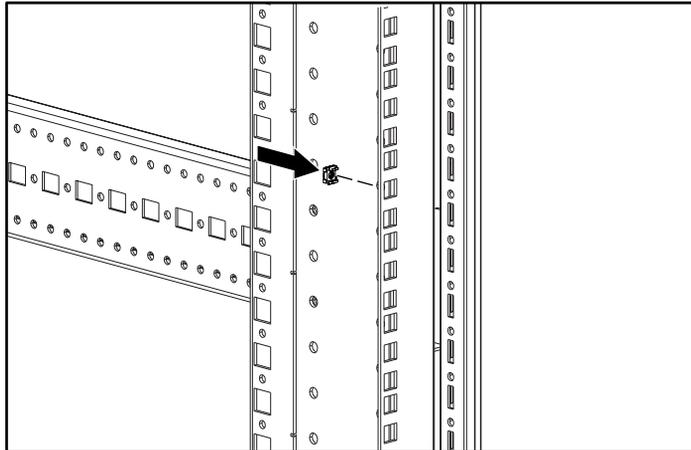

Figure 7: Installing cage nuts
3. Install cage nuts in the locations marked in step 2 (see Figure 7).